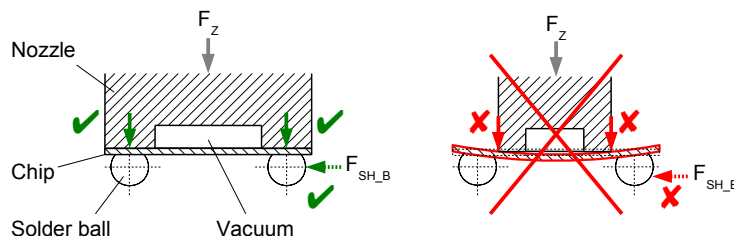

Figure 9: Pick-and-place; left: good nozzle, good picking; right: bad nozzle, bad picking
Picking and placement parameters have to be well controlled due to the nominal chip thickness of 73µm for automotive or 58µm respectively for other applications. High stress during pick or place, especially in the z-axis, may lead to chipping of the thin dies. The following specifications of the pick-and-place tool was used in the verification of this assembly process, refer to Figure 9:
- must have the same size as the chip, maximal contact area on the chip. Refer to Figure 9.
In order to reduce stress on the chip, it is advised that the nozzle has maximal contact area on the chip. The nozzle has to bring the  $F_z$  force evenly distributed vertically to the center of the solder balls during picking and placing. Refer to Figure 9, left picture. It means that it should be large enough so that it picks the chip not just in the middle of the part but also in the area above the solder balls.
Bending of the chip is not allowed, nor caused by picking or placing forces nor by the vacuum of the nozzle. Refer to Figure 9, right picture. Keep attention to have no shear forces on the solder balls during picking the chip from the tape pocket and/or placing. Do touch with the chip nor the pocket walls nor anywhere.